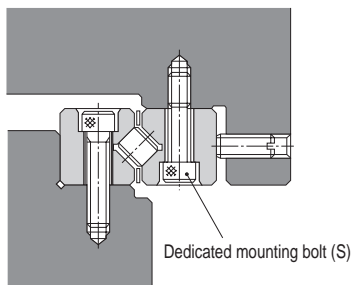
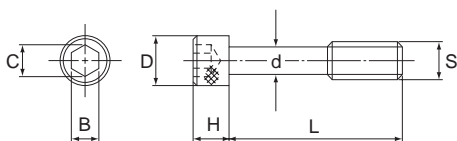

Fig.2
Fig.3 Dedicated Mounting Bolt
If it is inevitable to adopt a mounting method like the one shown in Fig.2 for a structural reason, use the dedicated mounting bolt (S) indicated in Fig.3.